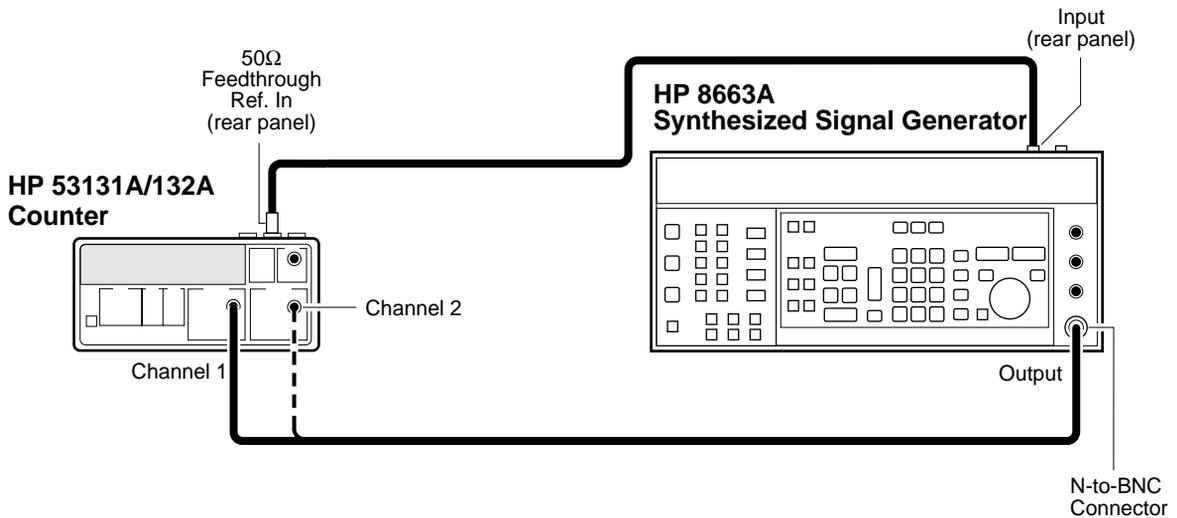

Figure 1-8. Channels 1 and 2 Frequency Accuracy Test Setup
- 1 **Connect the equipment as shown in Figure 1-8 with the signal generator connected to Channel 1 of the Counter.**